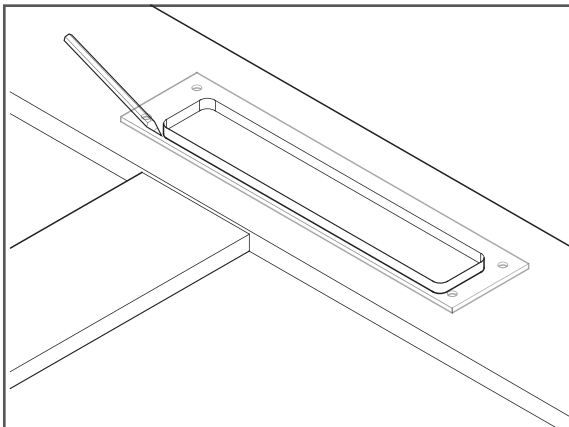

Figure 2
2. Once the pull is in the desired position, trace around the exterior inset surface with a pencil (Figure 2).